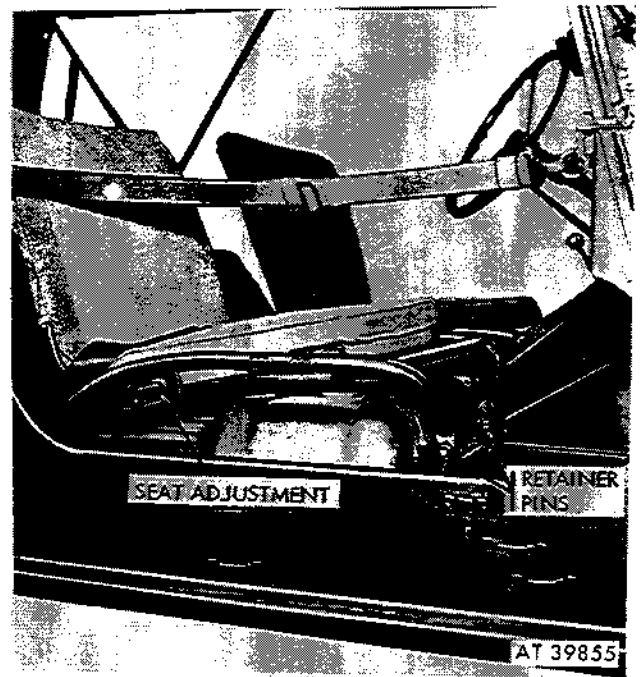

Figure 2-405. Front seat removal.
c. Front Seat Frame. The front seat frames are identical and constructed of tube welded steel. Remove three retaining pins to remove frame from floor (figs. 2-405 and 2-406).